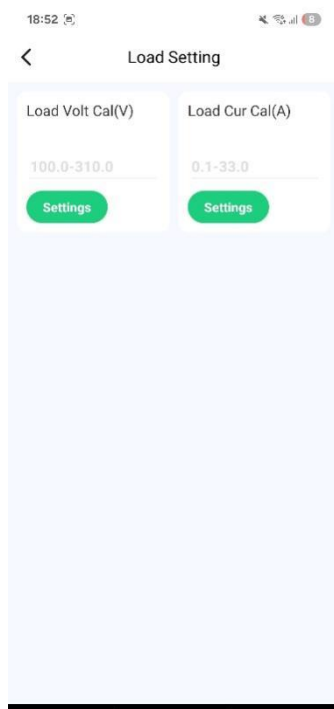

Fig. 4.20.6 Load Settings
1. In load settings, you can set parameters for load voltage, load current, and more, as shown in Fig. 4.20.6.